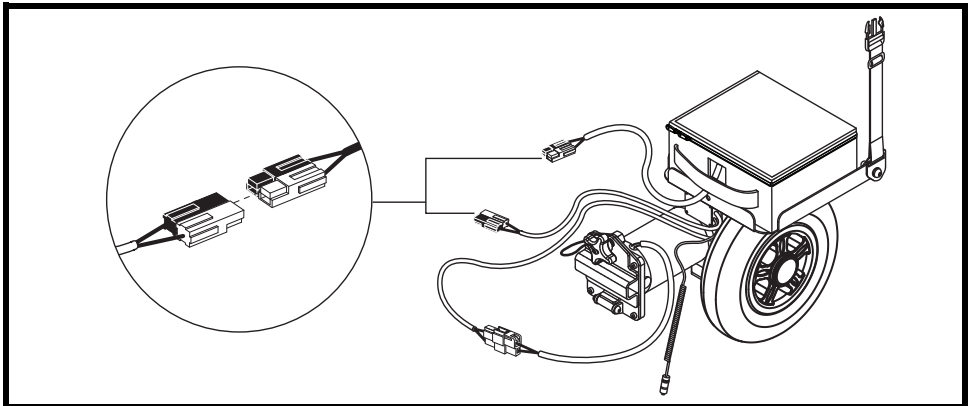

Figure 5. Battery Pack Installation
10. Place the battery pack on the powerpack. **See figure 5.**
11. Connect the battery plug on the powerpack to the plug on the battery. **See figure 5.**
1. Disconnect the battery pack from the powerpack. See figure 5.
7. Reconnect the battery pack to the powerpack. See figure 5.